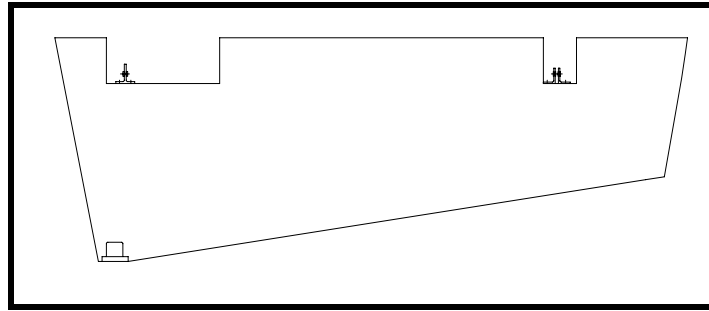

Figure 17
- ❑ Install the two spruce blocks required for the tail light. Scuff-sand the plywood before gluing. See Figure 17.